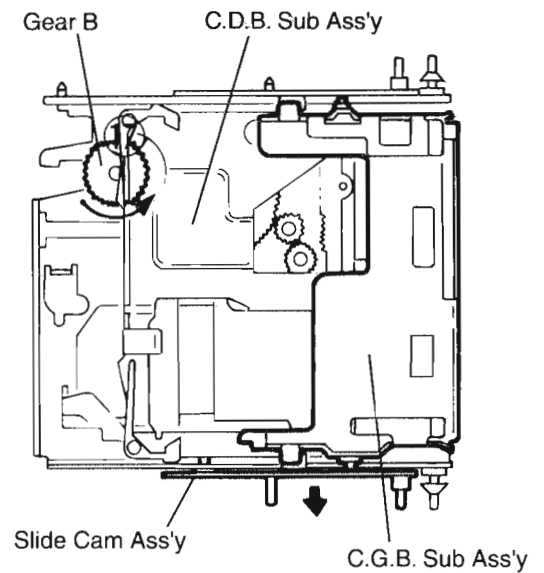

Fig.16
3. Turn the gear B counterclockwise to move the C.D.B. sub assembly to the position shown in the Fig.16.